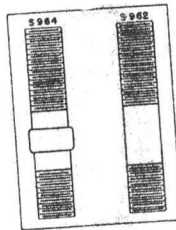
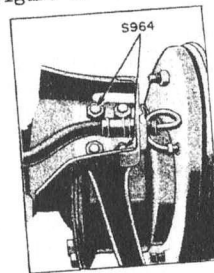

Figure 1.
Figure 2.
1. Effective with vehicle serial number 103317, the front outside and the rear inside steering arm attaching studs will be dowel-studs part number S-964. The remaining two will continue as studs, part number S-962. These parts are shown in Figure 1. The locations are shown in Figure 2.